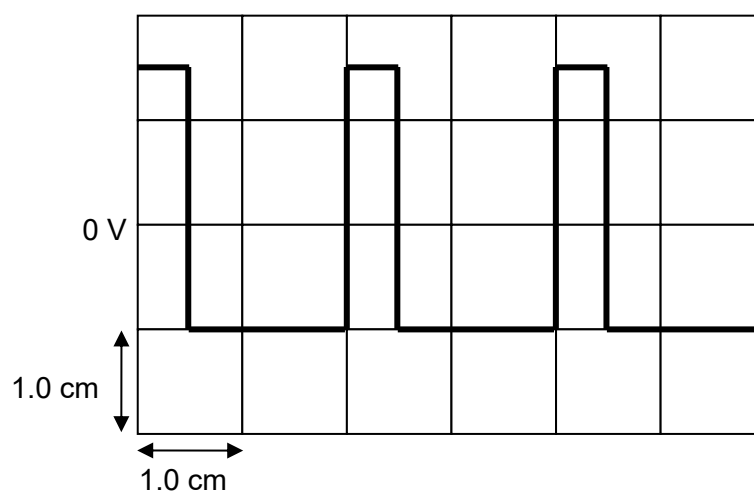

Fig. 5.3
- (c) An oscilloscope is used to measure the potential difference across a resistor in an a.c. circuit. The voltage waveform is shown in Fig. 5.3.